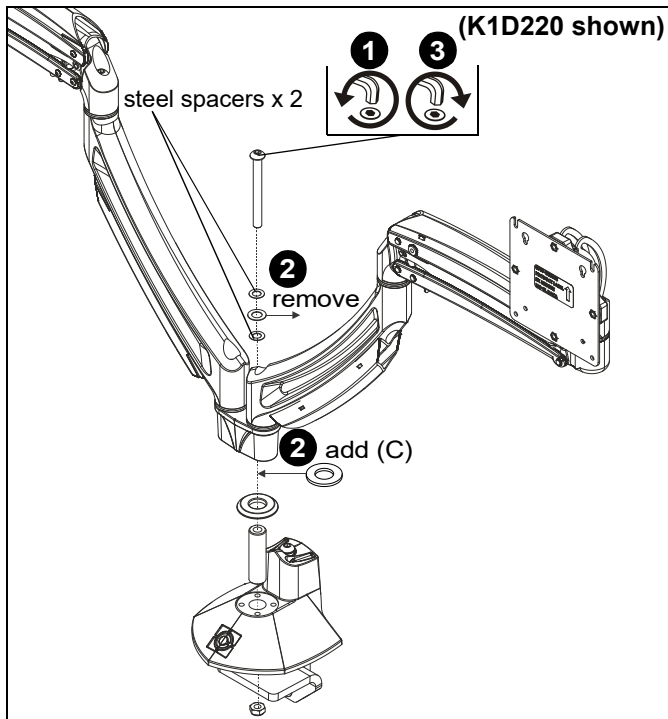

Figure 1
1. Remove bolt, washers and spacers holding mount to base. (See Figure 1)
2. Reassemble assembly adding spacer (C) on top of existing spacer and removing plastic washer sandwiched between two steel spacers. (See Figure 1)
3. Tighten bolt to secure mount to base. (See Figure 1)